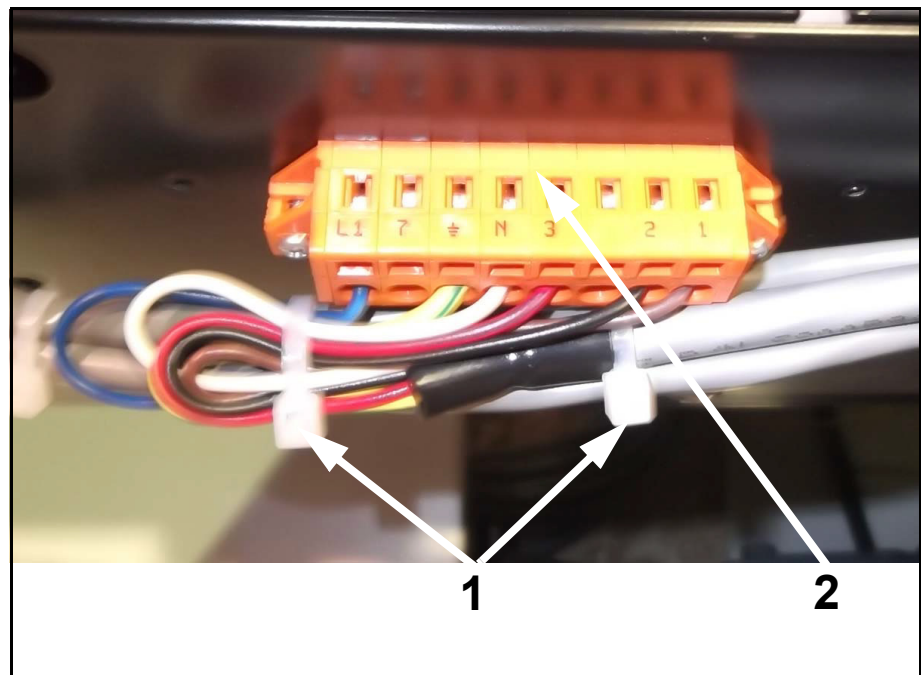

Figure 5-13. Bucky Terminal Connection
- 14** Cut cable ties (1 in Figure 5-13).
- 15** Disconnect the wires from the bucky terminal (2).